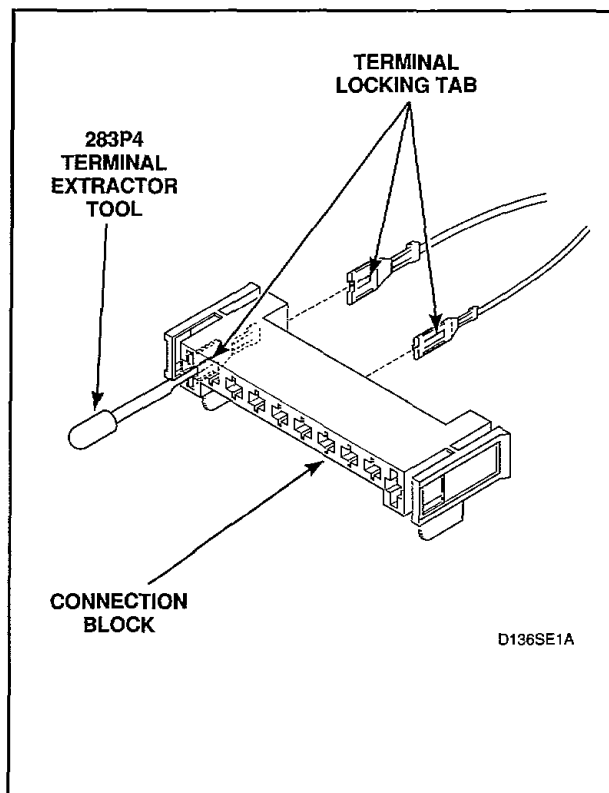

Figure 40
- (1) Insert the tool into the block on the back of the terminal being removed, *Figure 40*.
- (2) Apply tool pressure to compress the terminal locking tab on terminal and force the terminal and wire out back side of connection block, *Figure 40*.